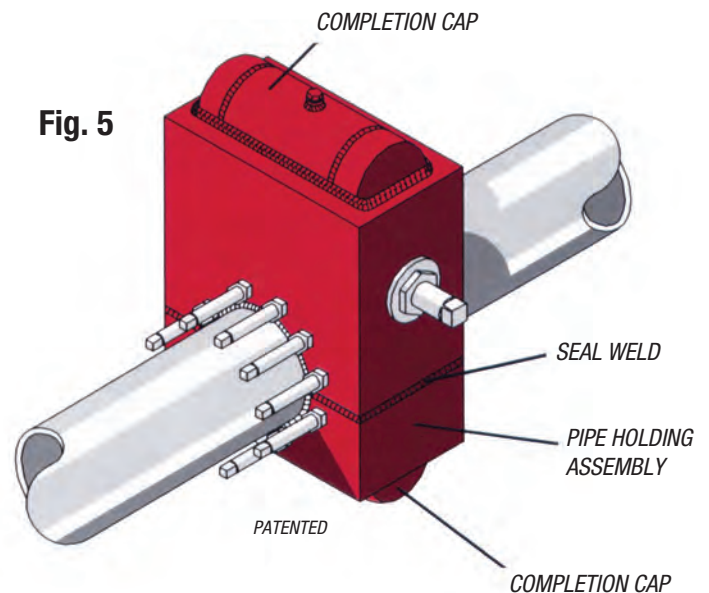

Fig. 5
Step 10 – After the blind plate is retracted, the retraction cock valve is closed. The Shear+Plug is then disassembled and the second completion cap is welded to the pipe holding assembly. (Fig. 5).